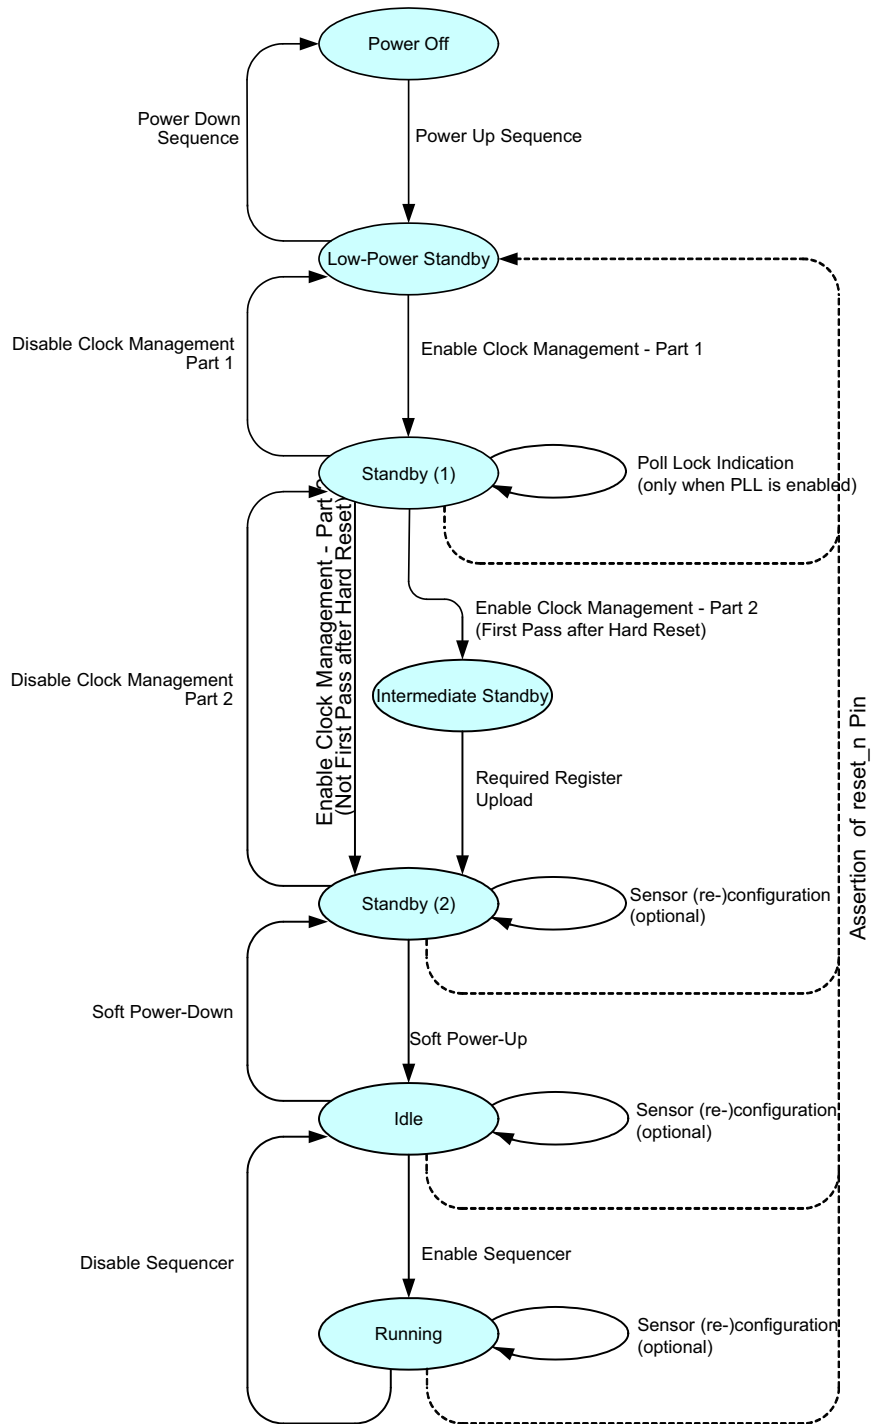

Figure 15. Sensor Operation Flowchart
Figure 15 shows the sensor operation flowchart. The sensor has six different 'states'. Every state is indicated with the oval circle. These states are Power off, Low power standby, Standby (1), Standby (2), Idle, Running.
Check the PLL\_lock flag 24[0] by reading the SPI register. When the flag is set, the ‘Enable Clock Management– Part 2’ action can be continued. When PLL is not used, this step can be bypassed as shown in Figure 15 on page 15.